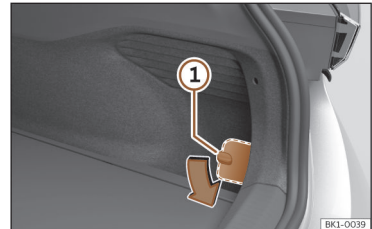

Fig. 51 On the lower right-hand side of the luggage compartment trim: cover with cutting lines.
- Turn the cover lock through 90°»» Fig. 51 ①.
- Press the surface over the lock inwards »» Fig. 51 (marked zone).
- Insert your hand through the opening and pull the cover off. If necessary, apply a suitable object along the cutting lines»» Fig. 51 ②.